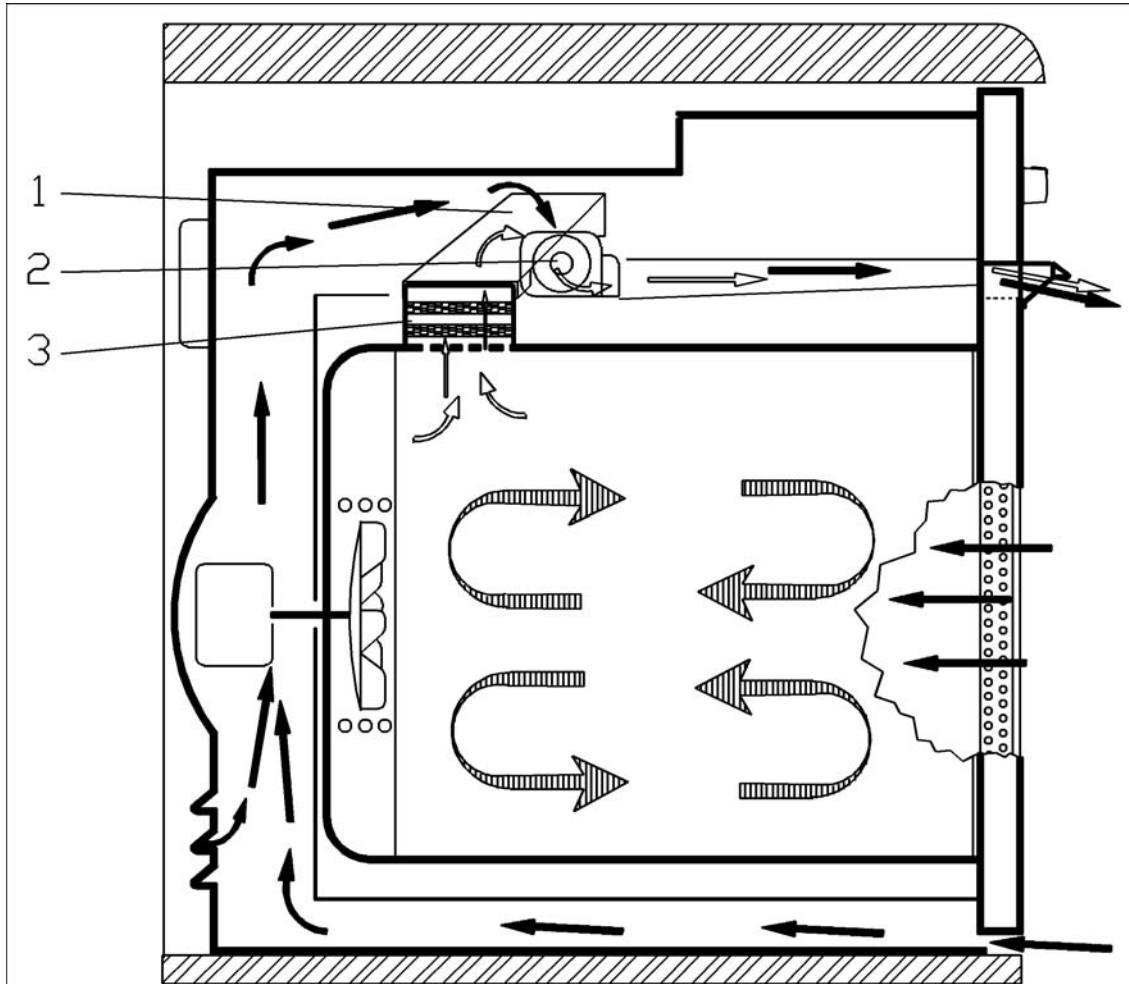

Figure 4-2: Cooling and Venting Air Paths – Novotronic Ovens With Self-Clean (H387)
1. Refer to figure 4-2
2. The catalyser (3) removes grease particles from expelled air to reduce odors
4. The water and carbon dioxide are removed by the cooling fan (2) and expelled via the vent duct (1)